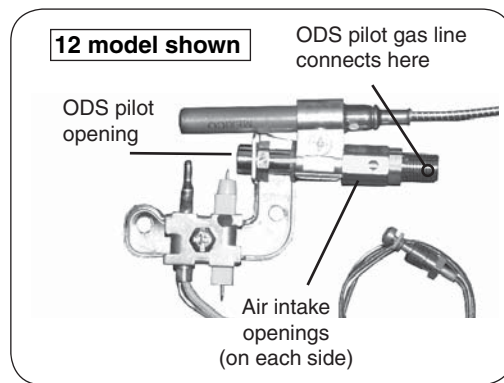

Fig. 36-1
1. Turn the burner system to the **OFF** position and allow it to cool. Inspect the ODS pilot area (see Fig. 36-1) for any visual contamination or debris (usually lint, hair, spider webs, or small insects). Lightly brush off all external surfaces while vacuuming loosened debris from the ODS pilot opening. **Be careful not to brush any foreign material into the ODS pilot opening.**
2. Clean out the air intake openings (see Fig. 36-1) by lightly brushing around the openings while vacuuming.
4. If the ODS pilot flame does not burn as indicated in the instructions, extinguish the ODS pilot by turning the valve to the full **OFF** position. Using a compressed air duster, insert the flexible nozzle through the air intake openings, ensuring that the nozzle is pointed toward the ODS pilot opening (see Fig. 36-1). Blow air through the intake openings to clear out any debris that may be in the system.
5. Relight the ODS pilot and inspect it to be sure it is burning as shown in the instructions. If not, extinguish the ODS pilot and **turn off the gas supply to the burner system.** Using an adjustable or a 1/4" wrench, disconnect the ODS pilot gas line (see Fig. 36-1) from the valve.